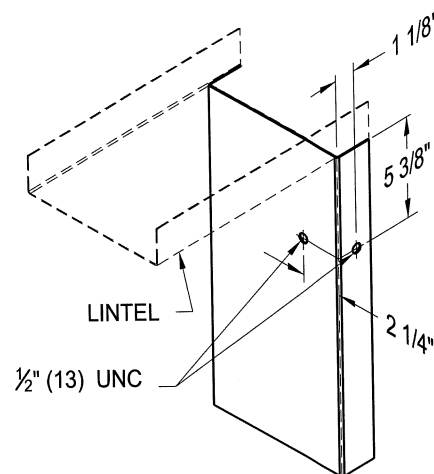

fig. 22
- Measure and mark horizontal line perpendicular to plumb line at 6 1/2" down from lintel. Make mark extend around corner to front wall face (fig. 22).
- Make first hole mark on jamb face at 2 1/4" in from wall face (fig. 22).
- Make second hole mark on wall face at 1 1/8" from jamb face (fig. 22).
- Drill and tap holes for 1/2" (13) UNC holes at the two points. Use  $\varnothing_{27}^{27}$  drill bit.